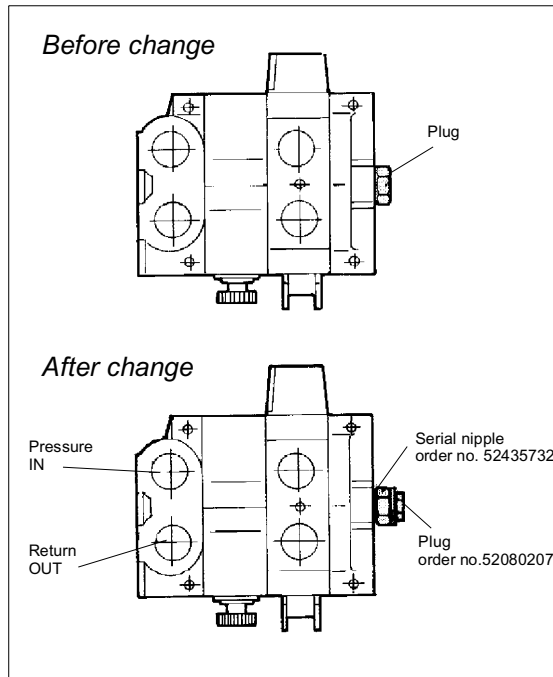

Fig.5. Changing the valve for closed center hydraulics.
- The chippers valve is built for open center hydraulics. If your tractor has a closed centre hydraulic system, can the valve be changed to suit your system by changing the plug at the end of the valve. See fig.5.